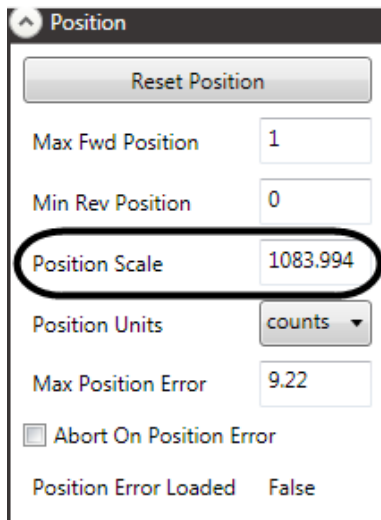

Figure 34
4. In the **Position** section of the **Motor Editing Pane**, enter the computed number into the **Position Scale** field (Figure 34).